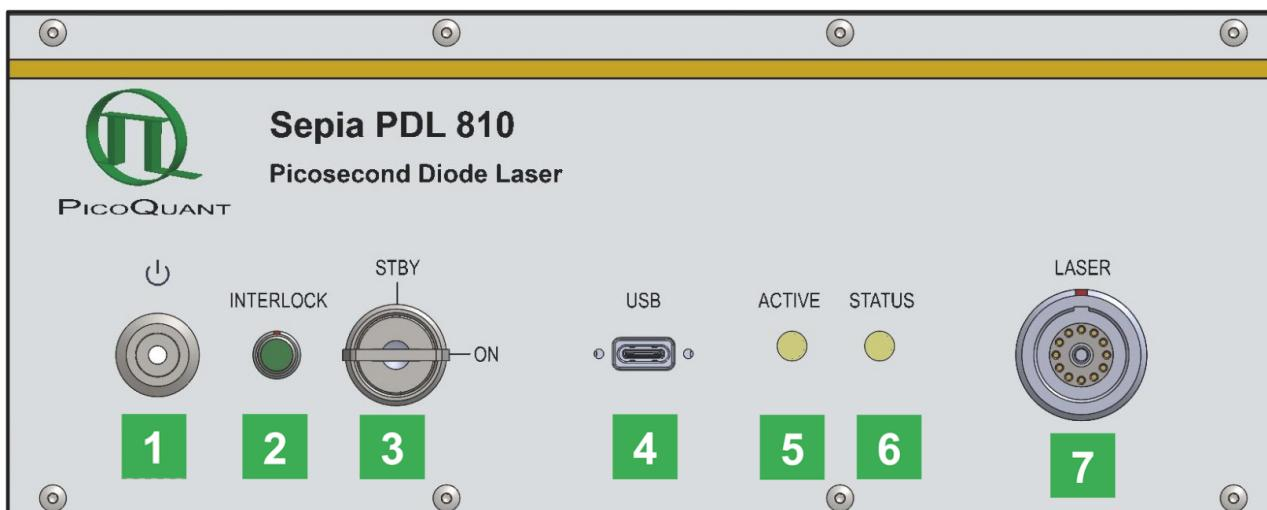

Figure 7: Sepia PDL 810 Front panel
- The *Sepia PDL 810* is controlled from a PC using a USB 2.0 connection, see item **4** in Fig. 7
- Key switch (item **3** in Fig. 7) is set to the “STBY” (vertical) position
Use only laser heads of the *LDH*, *LDH-FA* or the *PLS* series supplied by PicoQuant. Connect the laser head via the large connector on the front panel of the *Sepia PDL 810*, see item **7** in Fig. 7.
Fig. 7 shows the indicators and controls available on the front panel of a *Sepia PDL 810*.
Do NOT look into the laser optics when the laser is switched ON, which is indicated by the "ACTIVE" LED, see Fig. 7!